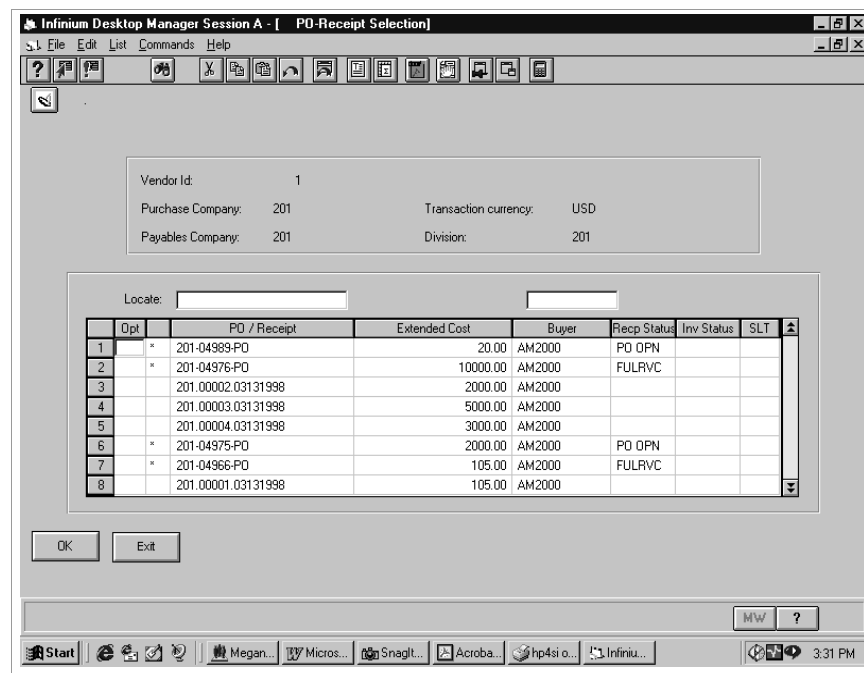

Figure 5-14: PO-Receipt Selection screen
You begin these procedures at the PO-Receipt Selection screen shown in Figure 5-14.
To select a receipt at the receipt detail level, you begin at the PO-Receipt Selection screen shown in Figure 5-14.
- 4 When you have selected items for inclusion in the invoice, press Enter. The system returns you to the Purchase Order Detail Summary screen shown in Figure 5-14. The system updates the *SLT* column with **DTL** when you select a receipt at the Receipt Summary Selection screen.
To display receipt header information, you begin at the PO-Receipt Selection screen shown in Figure 5-14.